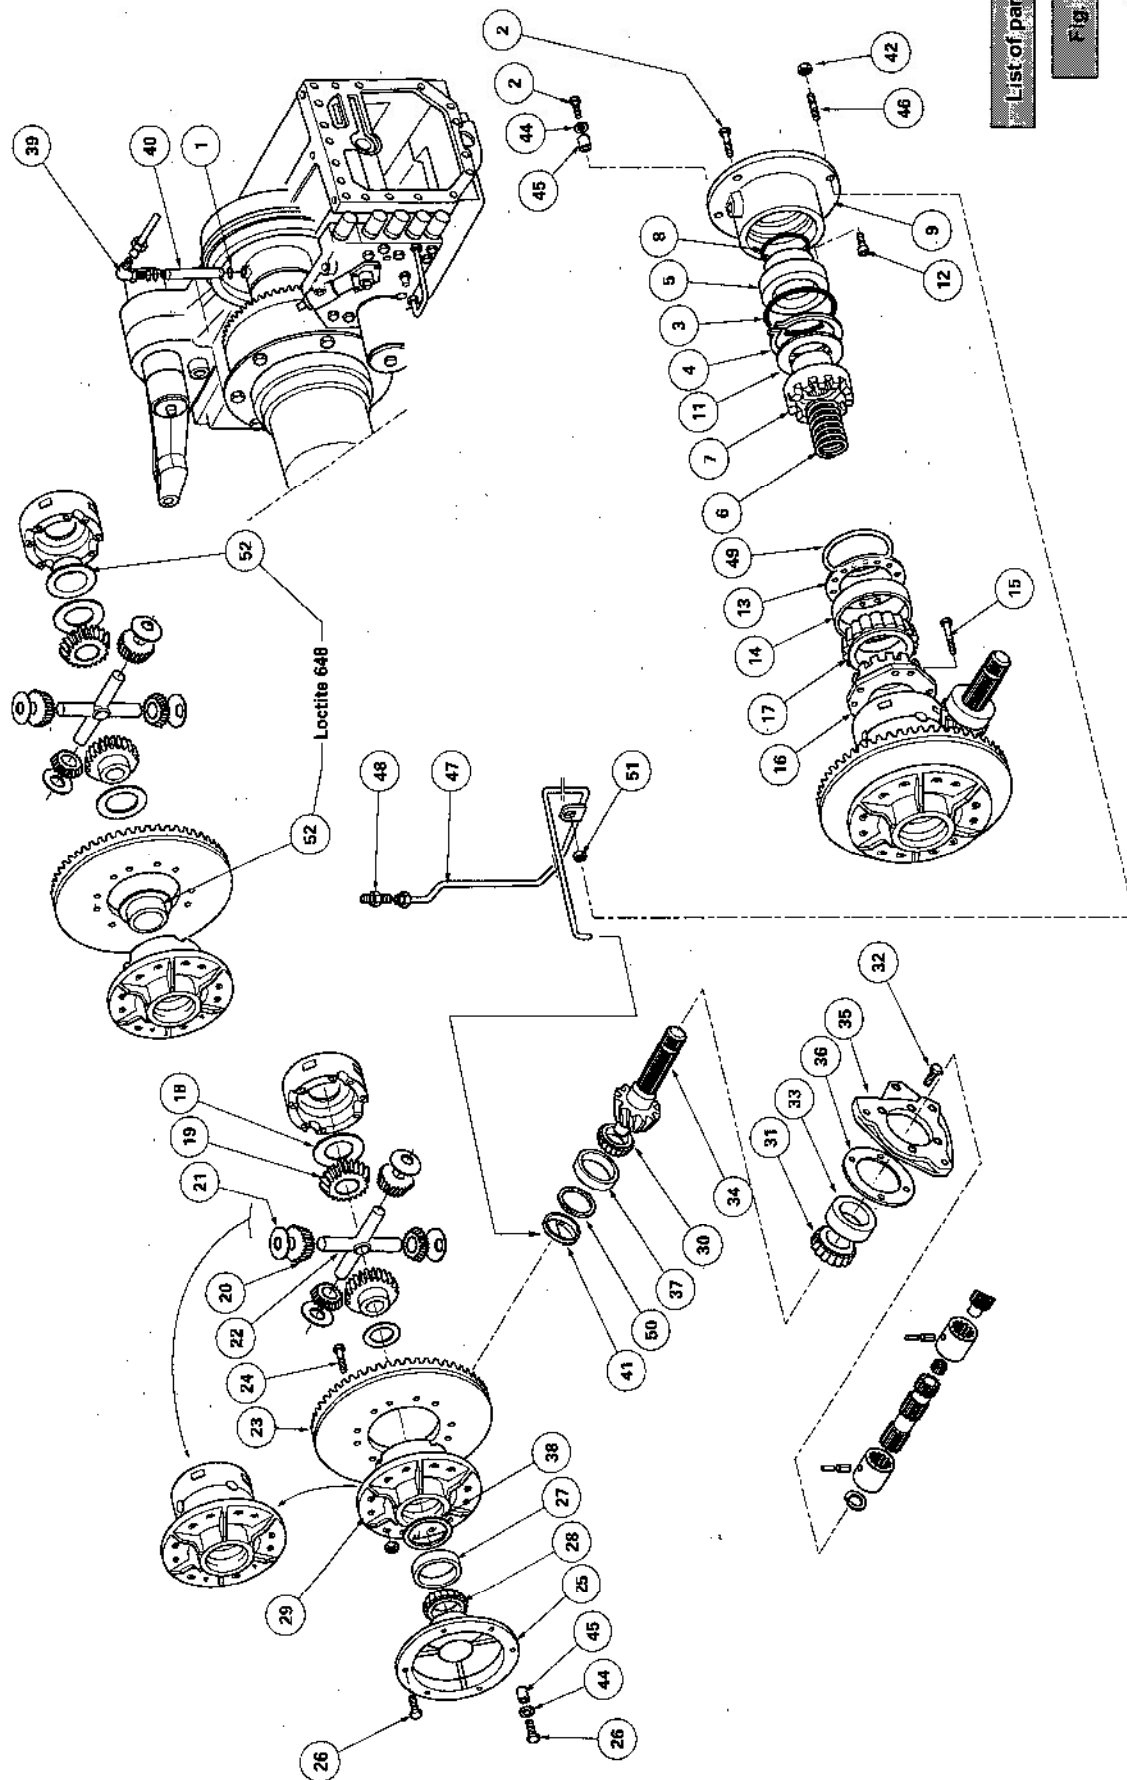

Fig. 2
53. Slide housing (18) on input shaft (19).
54. Compress the Belleville washers with the tool used in operation 43. Fit bush (5) aligning the two flat parts with the flat parts in clutch housing (18). Replace the rear retaining ring (9) and position it correctly at the bottom of the groove.
55. If disassembled, fit bearing (32) using an appropriate tool with the sealed side directed towards the Dynashift.
56. Fit the hub in the bearing in clutch cover (33).
58. Position intermediate plates (30), by aligning their recesses, and disks (29) on hub (27) as per Fig. 2.